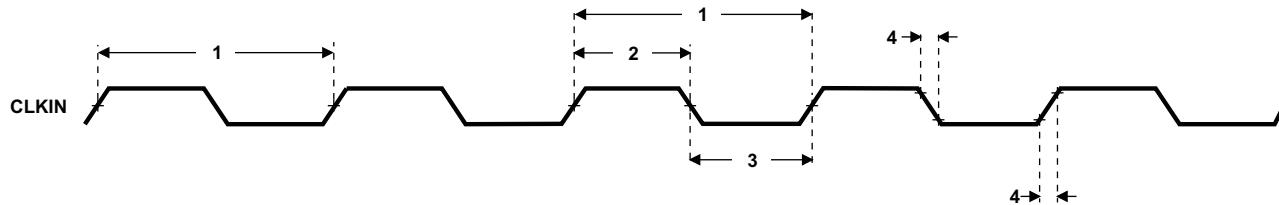

Figure 5-11. CLKIN Timing
Table 5-8. Timing Requirements for CLKIN^{(1) (2)} (see Figure 5-11)